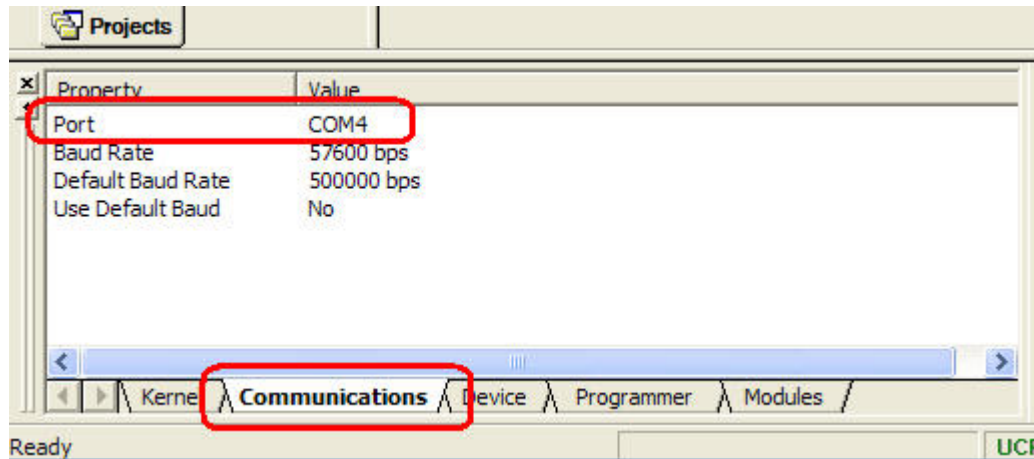

fig.19.a
- 1) Double click on COM# label (COM4 in example on fig.19.a)
- 2) On window "Communication Port" select where USB cable is plugged (fig.19.b), then click on "Next" button,